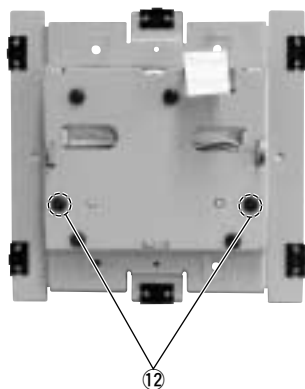

Fig. 4
6. Removal of FUNCTION (2) P.C.B.
- a) Remove 2 screws marked [12]. (Fig. 4)
- a) ⑫のネジ2本を外します。(Fig.4)